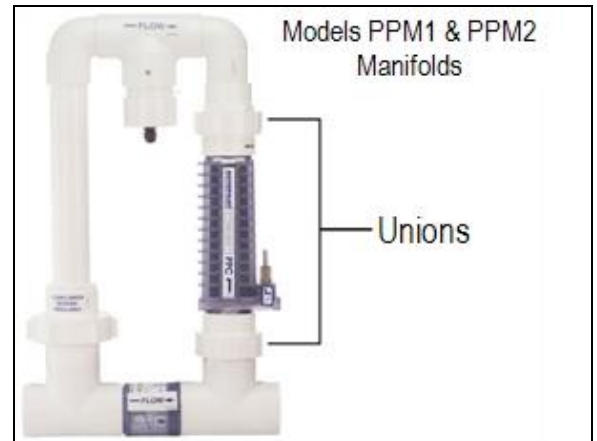

Figure 7
2. Ensure the union o-rings are in place; then place the cell into the manifold with cell pins pointed upward. See Figure 7.
3. If necessary, use water to rinse away any dirt and debris on the union and then tighten the unions by hand for a watertight seal. The cell cable has three (3) electrical contact pins. The cell will have two (2) electrical pins. Position the cell plug so the two (2) open holes align with two mating terminals and push gently, but firmly, to connect. Use the red weather plug (supplied) to seal the unused contact in the cable.